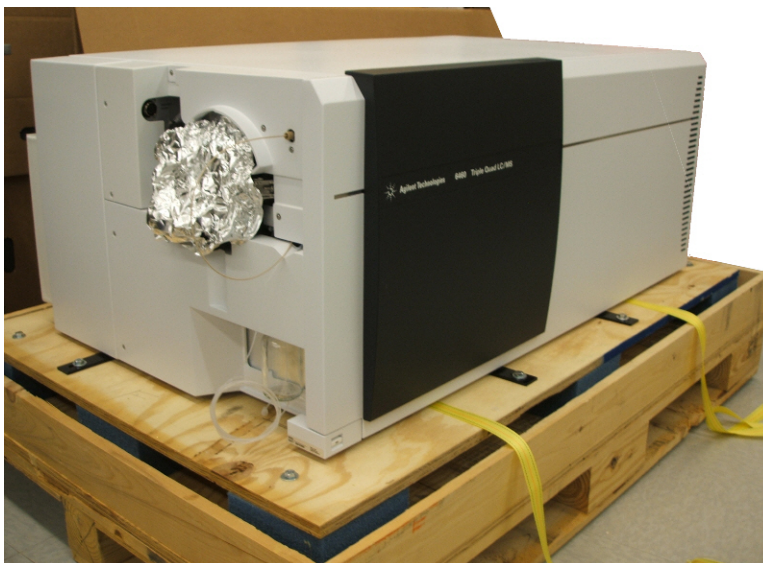

Figure 3 Instrument unpacked on shipping pallet (6460 pictured)
- b** Lift the boxes off the top of the instrument. See Figure 3.